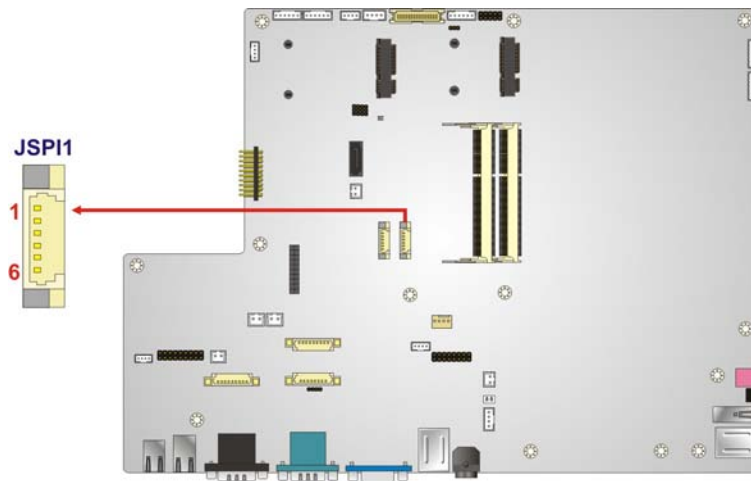

Figure 5-5: BIOS Programming Connector Location
- CN Location: See **Figure 5-5**